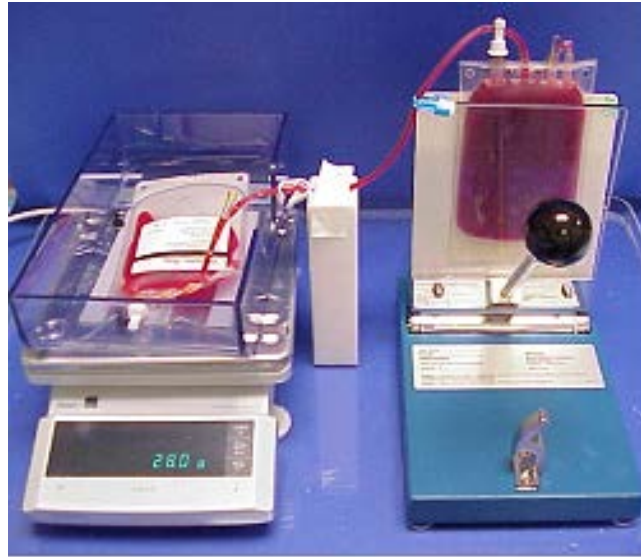

Figure 12
- b. Place the centrifuged infusion bag in the plasma expessor and the attached supernatant bag inside a Plexiglass or equivalent tray on the scale (see Figure 12).